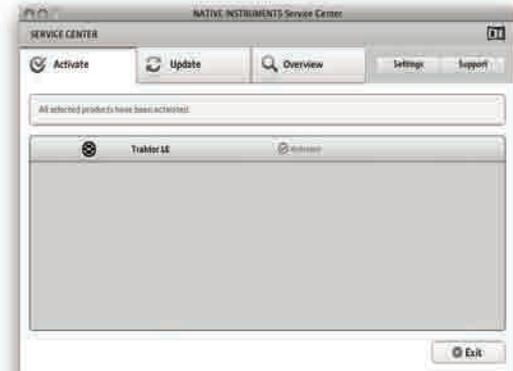

Figure 5.45
4. All selected products have been activated. Click **Exit**. (Figure 5.45)